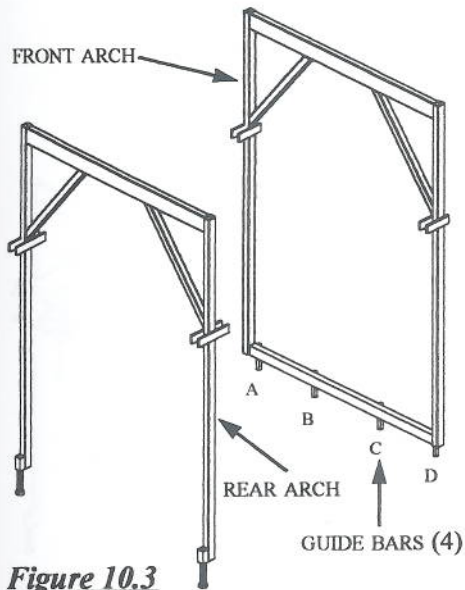

Figure 10.3
STEP 1 (Figure 10.3)
- 2 - **Select:** Rear arch section (open shape) and position, as per **Figure 10.3**